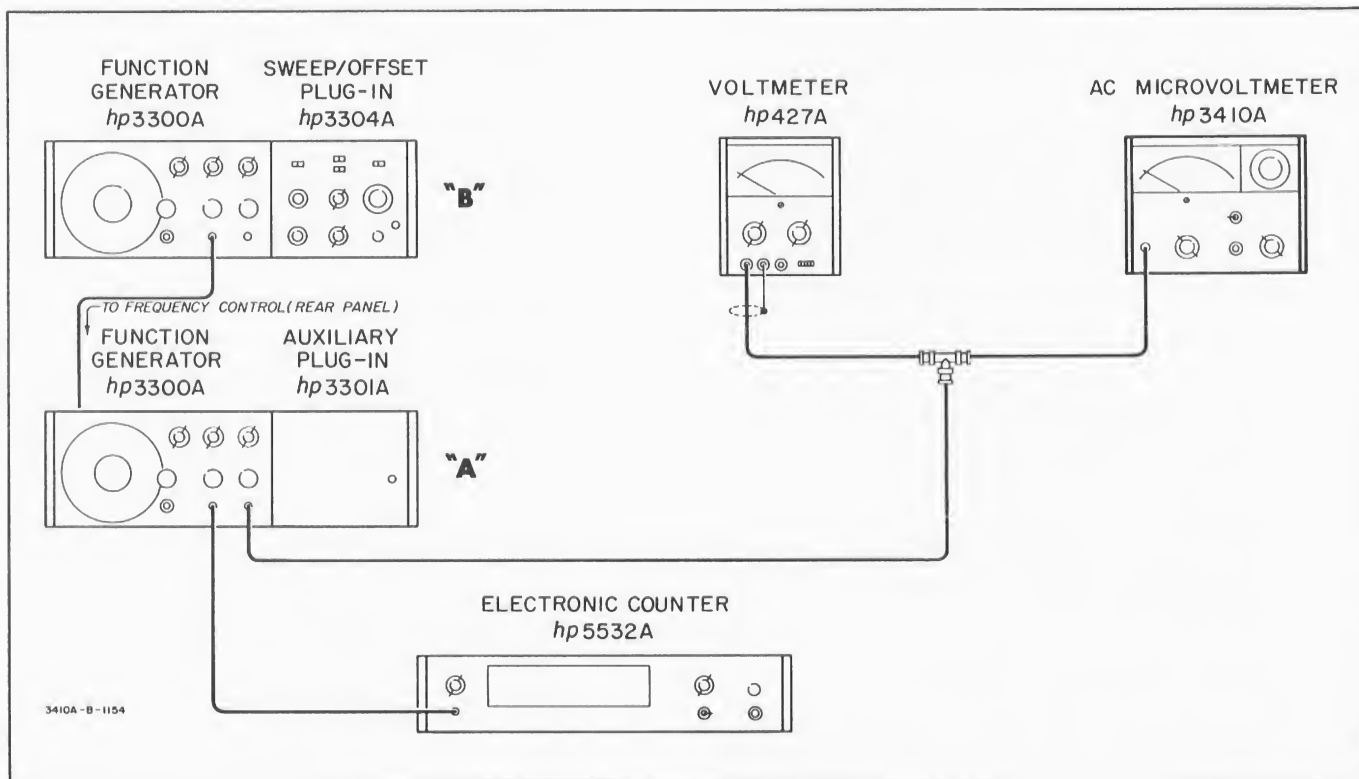

Figure 5-2. Tracking Check
- a. Connect two function generators, the electronic counter and the ac voltmeter as shown in Figure 5-2. (Note that function generator "A" is set up for external frequency control, using output of function generator "B").